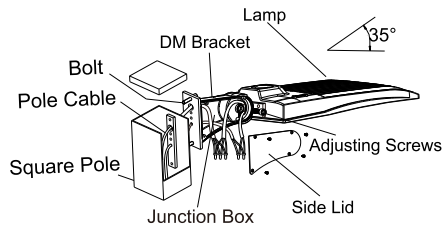

Figure 3
2. DIRECT MOUNTING (DM)
Step 1: Fix DM bracket to square pole with bolt, open the side lid of DM bracket, pull the wire into junction box, and connect the wire correctly. (Figure 3)
Notice: Adjustable angle is 0-35° (Figure 3).